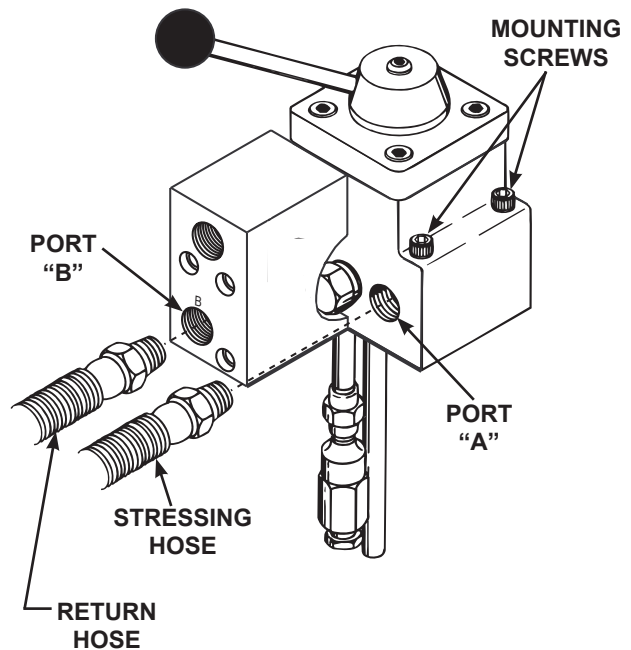

FIGURE 2
3. Connect the stressing hose from the stressing jack to the "A" port of the valve. See Figure 2.
WARNING: For use on PE30 Series pumps replace the mounting screws with longer mounting screws (No. 10856). See Figure 2.